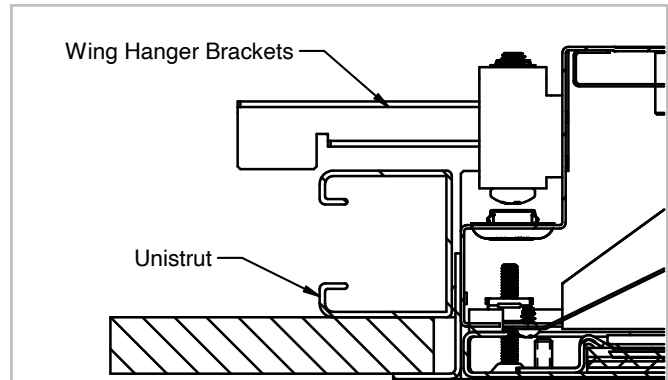

Figure 3: Wing Hanger
2. Wing Hanger brackets are used to secure fixture to ceiling structure. After creating the ceiling cutout, frame the opening on the plenum side of the ceiling. See *Figure 3*.
3. Framing around the entire opening is recommended and should start at the rough opening. The minimum thickness of the ceiling material plus the frame material is 1-1/2". The maximum thickness of the ceiling and framing material is 2.25". Typically, 1-5/8" Unistrut is used to frame the opening because of its straightness, but straight lumber can also be used (framing material by others). See *Figure 3*.